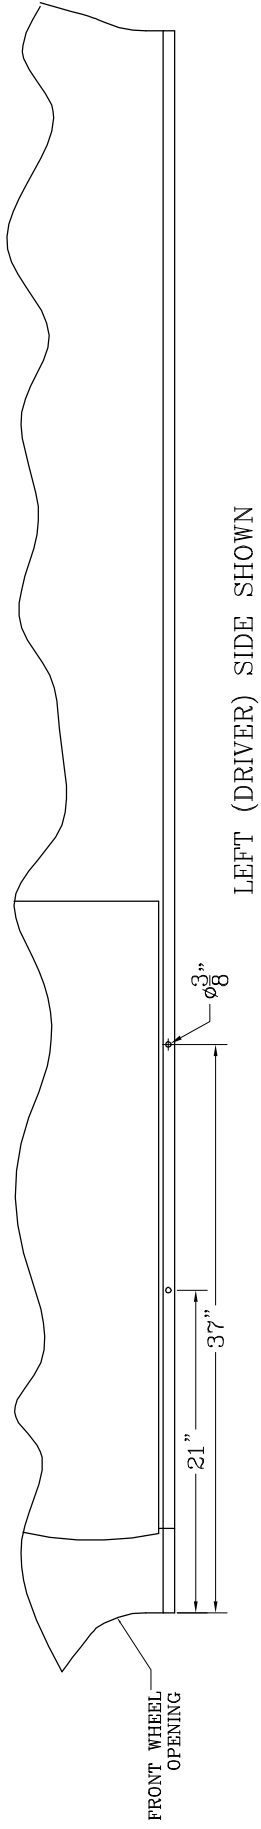

fig.1
3. BEFORE ATTACHING THE O-MEGA STEPS TO THE BRACKETS, PLACE THE STEP PADS (ITEM #3) ON TOP OF THE STEP PLATES ACCORDINGLY FOR YOUR VEHICLE. USING THE HOLES IN THE STEP PAD AS A GUIDE DRILL (5) 1/8" PILOT HOLES. ATTACH WITH (5) 8-18X1/2" TEK SCREWS (ITEM #7) PROVIDED. REPEAT FOR ALL STEP PADS.
5. INSTALL THE END CAPS (ITEM #4) AS SHOWN IN *fig. 1*, TIGHTENING THE NUTS TO 5 LB FT.
1. DRILL (2) 3/8" DIAMETER HOLE THROUGH THE MIDDLE OF THE PINCH WELD FOR THE BOTTOM MOUNTING HOLE. SEE **FIG. 1** TO MARK THESE LOCATIONS WHICH ARE MEASURED FROM THE FRONT WHEEL WELL OPENING.
3. WITH THE (2) BRACKETS IN PLACE AND THAT THE UPPER SURFACE IS IN CONTACT WITH THE VEHICLE, USE THE TOP (2) HOLES IN THE BRACKET AS A GUIDE AND DRILL (2) 5/32" HOLES THROUGH THE INNER ROCKER PANEL FOR EACH BRACKET. INSTALL THE 1/4" X 3/4" SELF TAPPING SCREWS (ITEM #5) **USE CARE NOT TO OVER TIGHTEN.**